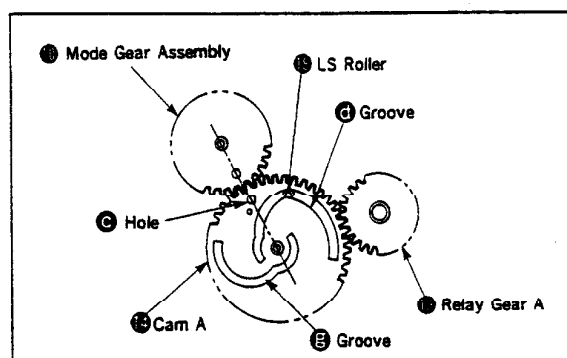

Fig. 31
- 2) Set a direction of the cam A ㉚ so that the hole ㉛ of the cam A ㉚ will be aligned with the hole of the mechanical chassis. (Fig. 31)
- 3) Move the GL slider ㉜ so that the LS roller ㉙ will be placed into the groove ㉝ of the cam A ㉚. At the same time, engage the mode gear assembly ㉔ with the gear of the relay gear A ㉞, and mount the cam A ㉚. Insert a stick of about $\phi 1.5\text{mm}$ in the hole ㉟ of the cam A ㉚. (Fig. 31)